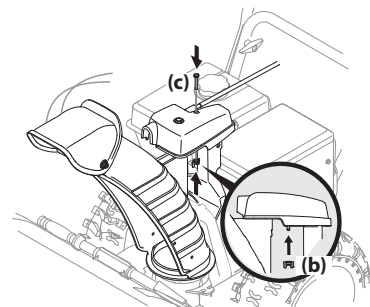

Figure 2-43
4. Finish securing chute control head by installing hex screw (c) and wing nut (b) removed in Step 1. See Figure 2-43.
6. Push chute control rod toward the control panel until hole in rod lines up with middle hole in chute control input and insert cotter pin (a) removed in Step 1. See Figure 2-43.